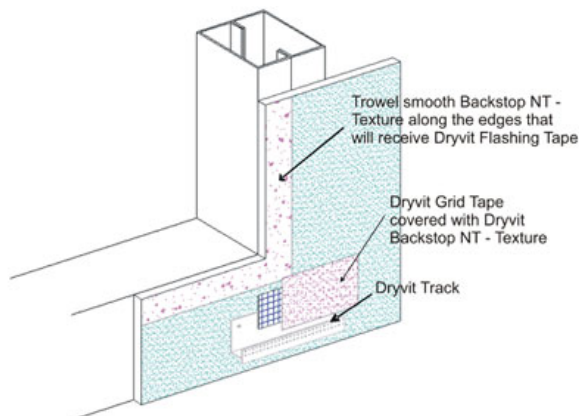

Figure 18
- 4) While the Backstop NT - Texture is still wet, using a trowel or spatula, smooth out the Backstop NT - Texture around all window and door perimeters and other areas that will later receive Dryvit Flashing Tape - Figure 18.
- 4) While Backstop NT - Texture is still wet, using a trowel or spatula, smooth out the Backstop NT - Texture around all window and door perimeters and other areas that will later receive Dryvit Flashing Tape - Figure 18.